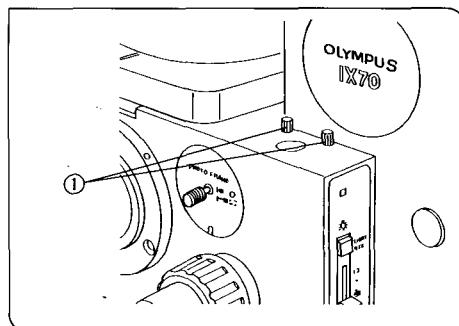

Fig. 21
(Figs. 21–28)
◎ The turret insert centering wrenches (1) provided with the condenser may be conveniently stored in the storage holes provided on the microscope frame. (Fig. 21)